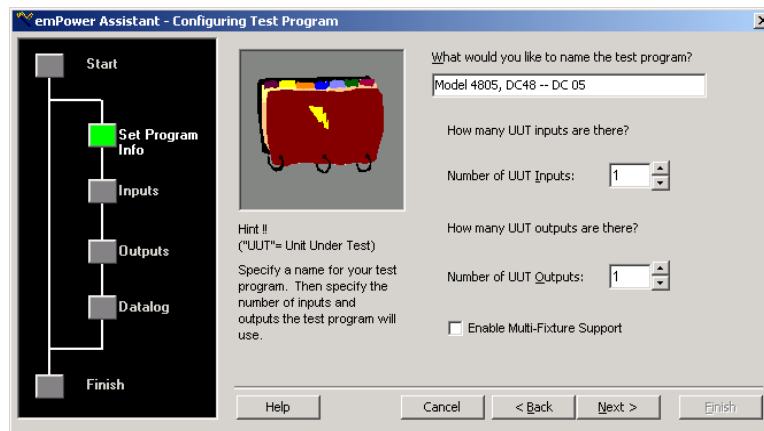

Figure 12 – The Assistant (Configuring Test Program) dialog window
1. Give your Test Program a name – this should be a descriptive name, Figure 12 shows the name chosen for a UUT with a 48 volt DC input, and a 5 volt DC output.